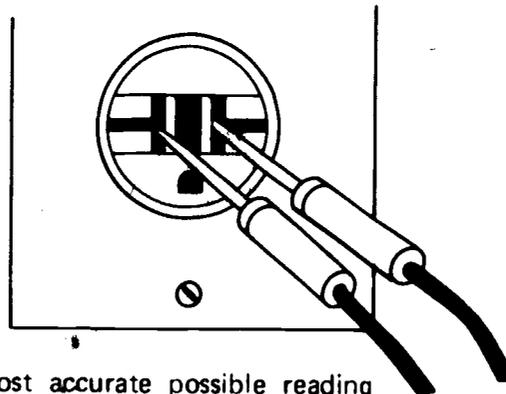

FIGURE 3
- G. Check across ungrounded slots of a 250 volt receptacle (Figure 3)